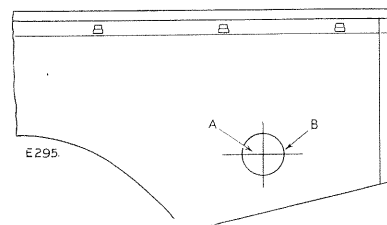

Fig. T-22—Position of hole in L.H. body side panel—88 models
40. Cut out a 4 in. (102,0 mm) dia. hole in the L.H. side rear wing, central and opposite to the oil reservoir filter plug, and fit the protection strip provided with a suitable adhesive. See Fig. T-22.